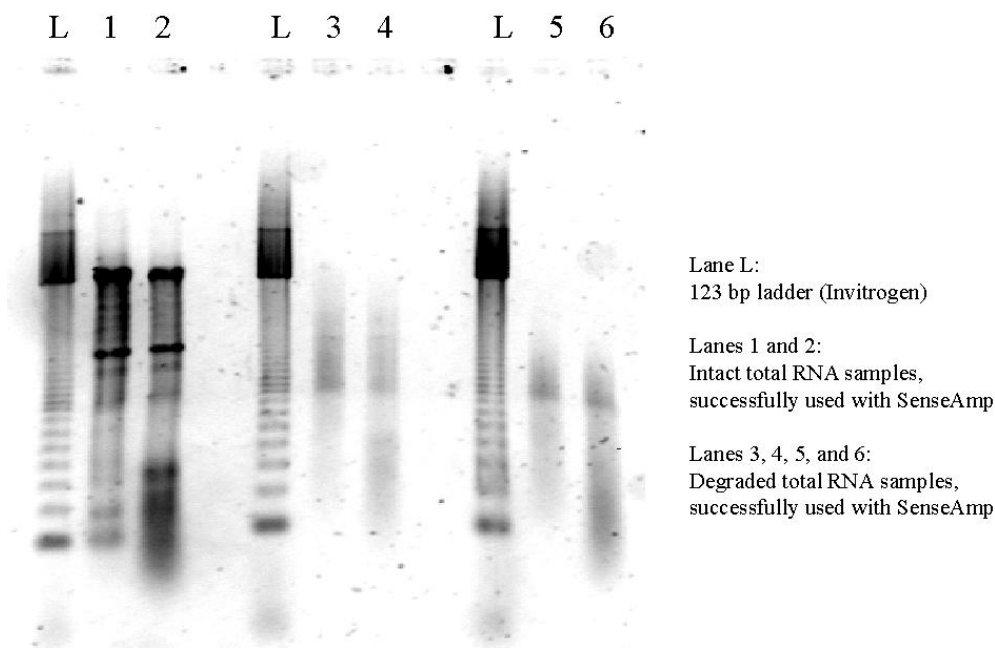

Figure 2: 1% denaturing agarose gel of intact and partially degraded RNA samples. One microgram of each RNA sample was loaded onto the gel.
- **Gel electrophoresis.** Intact RNA samples have two sharp, bright bands of rRNA. Partially degraded RNA samples have some visible smear of RNA, between 0.1-2Kb in length. See Figure 2 for examples of both intact and partially degraded RNA samples.